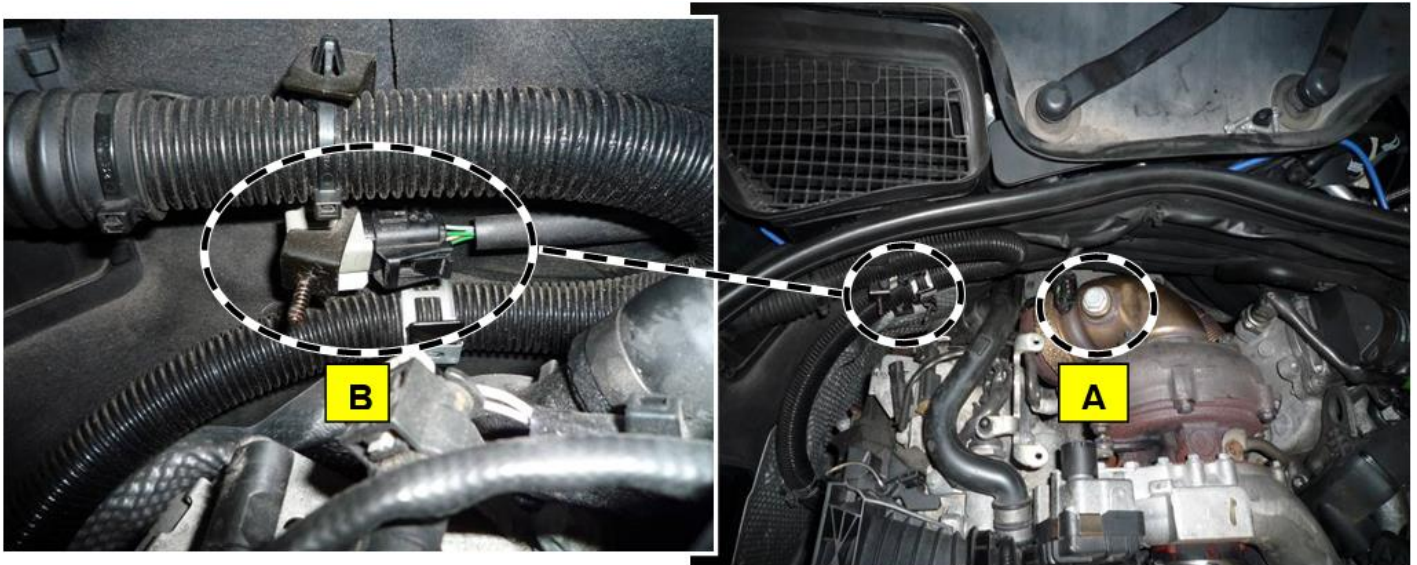

Figure 2
6. Install screw plug (N 007 604 018 109) and sealing ring (A 021 997 62 45) on the turbocharger (**Nm** 50, Figure 2,A).
7. Install the plug housing (A 000 545 40 39) on the electrical connection for the oxygen sensor (**Figure 2,B**).